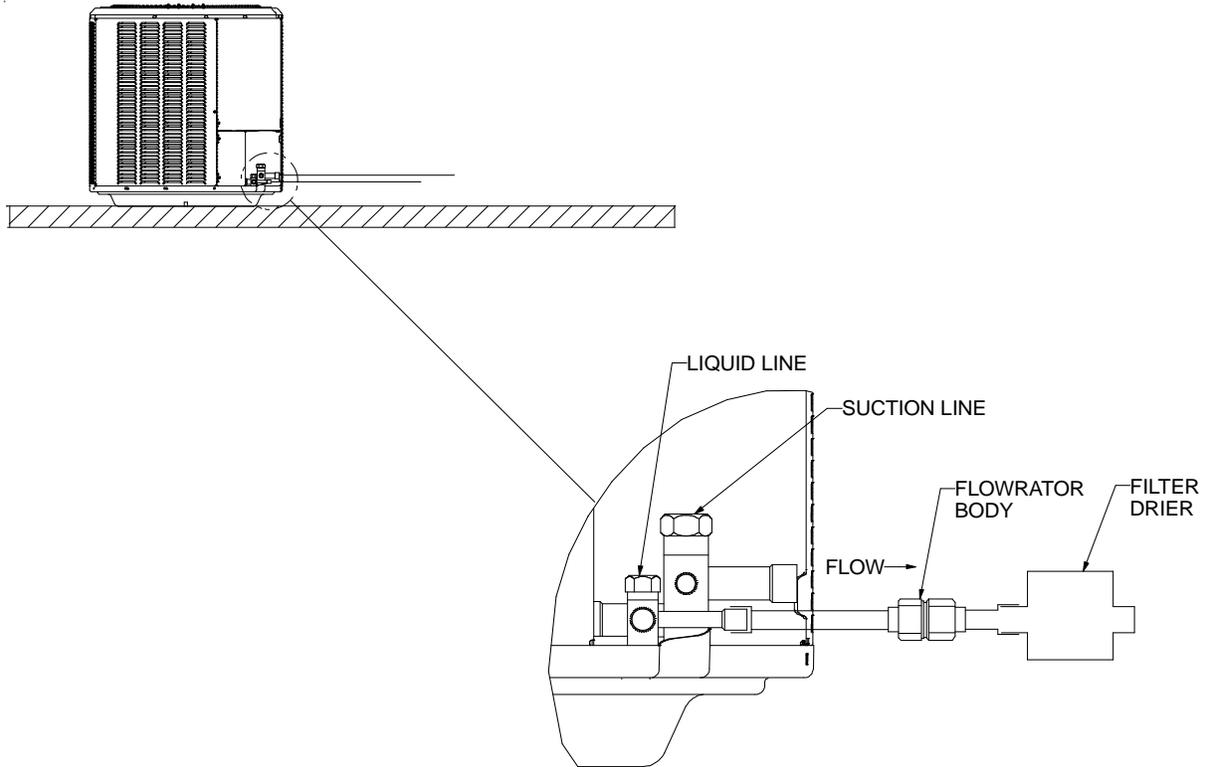

Figure 1-4. Replacing the Piston
13. Use the following instructions to replace the piston size based on Table 1, depending on vertical separation between outdoor and indoor unit. See Figures 1-4 and 1-5.